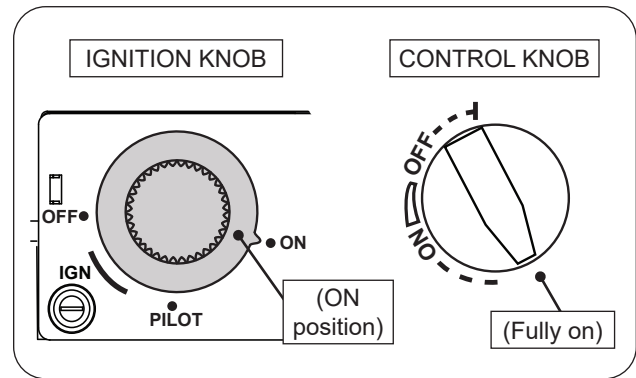

Fig. 27-1 Manual lighting
1. Ensure the pilot is burning. Turn the ignition knob counterclockwise ↶ to **ON** (see Fig. 27-1).
2. Turn the control knob counterclockwise ↶ to the fully ON position to ignite the burner (see Fig. 27-1).